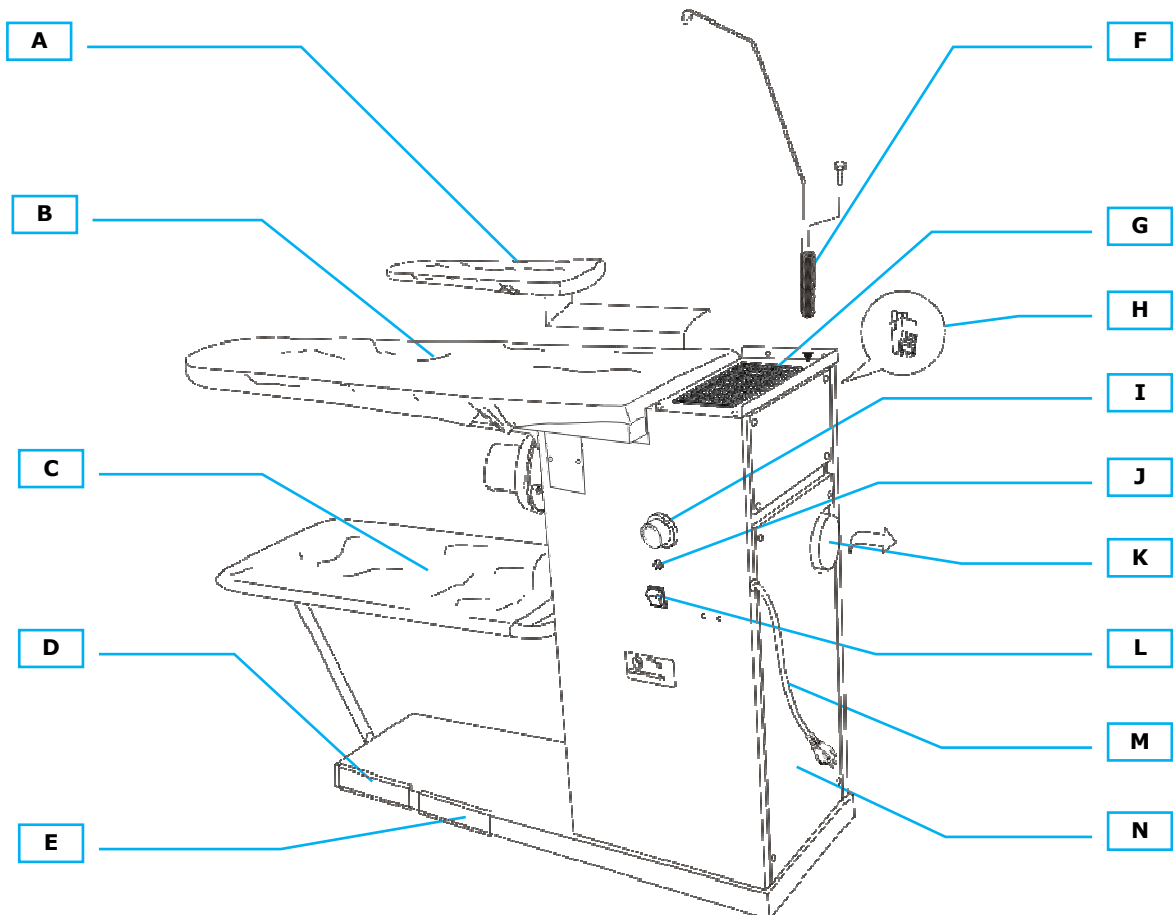

Fig. 1
4. For models equipped with sleeve ironing arm (fig. 1-A), insert the arm and fix it by screwing the respective knob. Insert the plug of the arm in the specific socket (fig. 1-H).
1. Turn on the main switch (fig. 1-L), adjust the thermostat knob on 80/90° C (fig. 1-I): when the board pilot lamp switches off (fig. 1-J), the board is ready to be used for ironing.